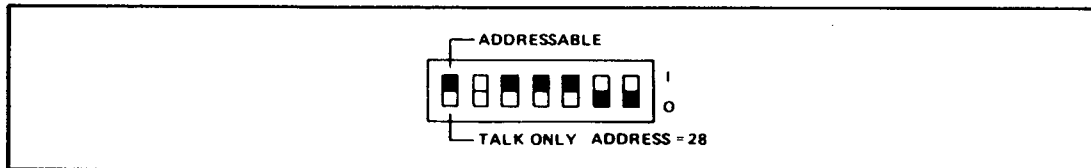

Figure 4-22. Switch Settings for Remote Trigger Level Test
- b. Set the Model 5328B's address switches as shown in *Figure 4-22*.